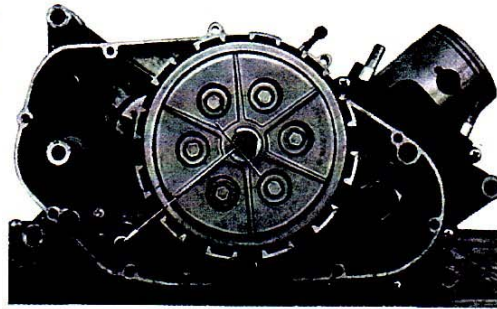

Fig. 6-3-13 Direction of clutch release rack
- 13) After fitting the clutch pressure plate, fit the crankcase right cover. In this case be careful of the fitting direction of the clutch release rack, so that the teeth of the rack faces the gear shifting shaft as shown in Fig. 6-3-13.